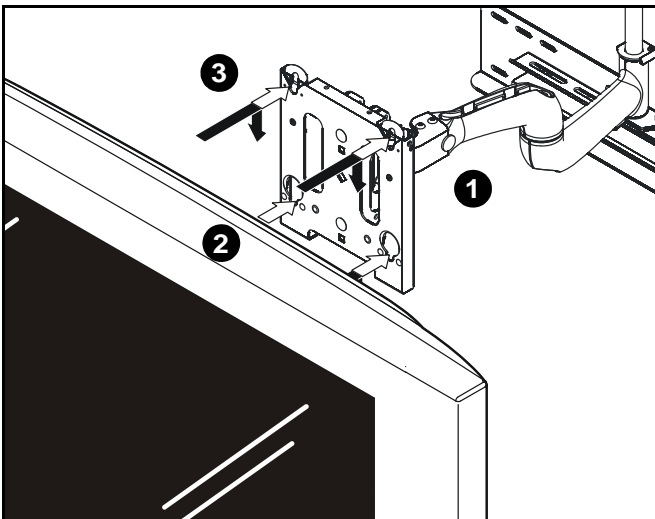
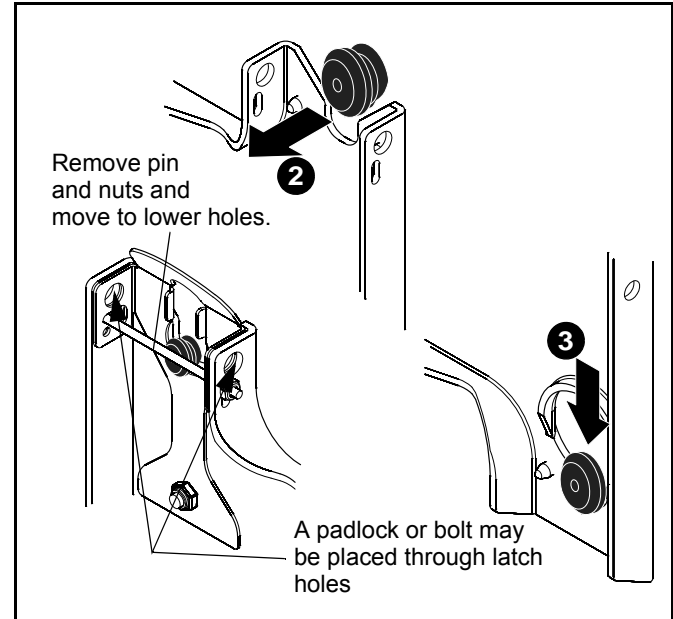

Figure 9
Figure 10
1. Move mount faceplate to extended position by grasping faceplate and pulling outward away from wall. (See Figure 9)
2. While supporting both sides of display, align four mounting buttons on display with four mounting holes in faceplate. (See Figure 9)
3. Lower display into place listening for audible "click" to ensure recessed area of mounting buttons are properly seated in lower area of mounting holes and ClickConnect mechanism has engaged. (See Figure 9) and (See Figure 10)
NOTE: Holes are provided in the faceplate for use with a padlock or similar locking device, if desired. In addition, the pin and nut may be removed from the upper holes and moved to the lower holes for use as a more permanent locking device. (See Figure 10)